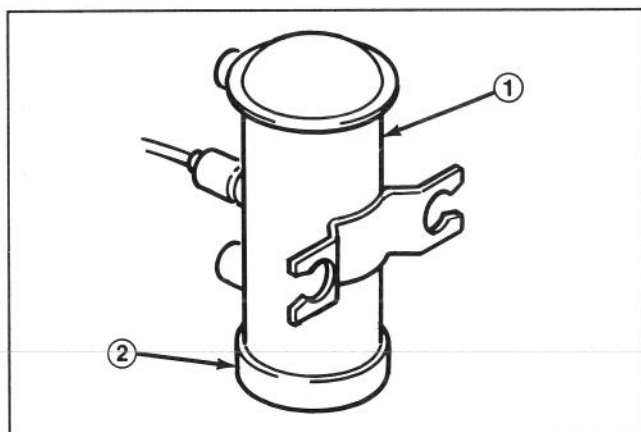

Figure 51
1. Fuel pump (Fig. 51) is located on inside of left frame channel below tool box.
3. Loosen bolt securing brace to engine and bolt securing alternator to brace (Fig. 51).